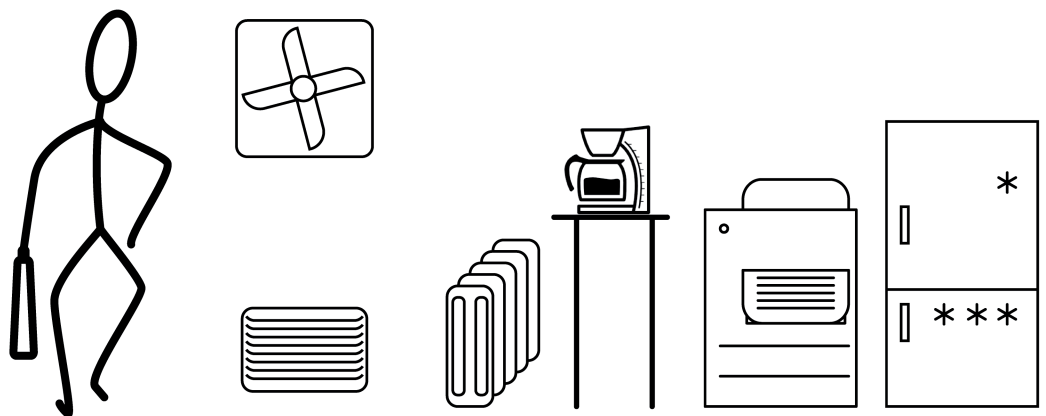

Figure 6: Heat sources in buildings
- Heat sources such as heating units, outlets from ventilation openings or air conditioners, copiers, printers, coffee machines, etc. (figure 6)